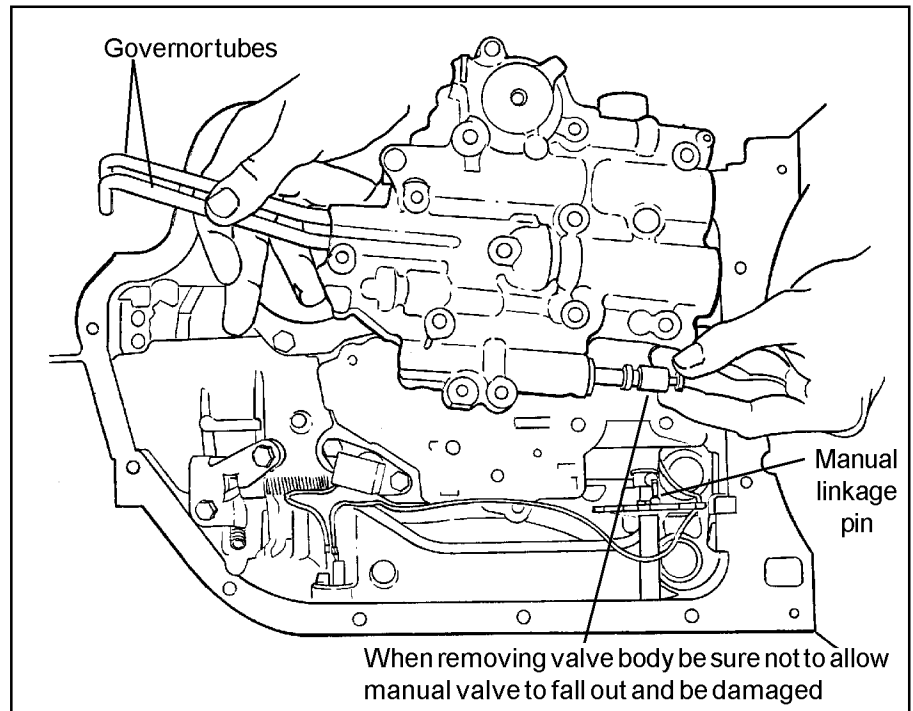
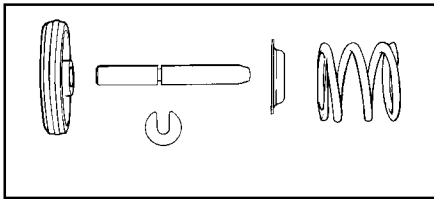

Figure 5
Figure 6
disconnect the spark control switch wire if present. Hold the valve body in place and remove the last bolt. Lower the valve body while at the same time pulling straight down on the governor tubes (See Fig. 5). Place the valve body in the oil pan to avoid contamination. **NOTE:** The front servo may fall out of the case, if it does see **Figure 6** for reassembly order. Use grease or petroleum jelly to hold the servo components
STEP 13. Insert the governor tubes into the valve body (**See Fig. 5**). Lay the lower valve body gasket (has "VB" punched in it) into position on valve body (use grease or petroleum jelly to hold it in place). Make sure the manual valve is in its bore. Install valve body onto transmission guiding the governor tubes into their holes at the rear of case. Push up on valve body and tubes and engage the manual valve on the shift linkage. Install one bolt to hold valve body in place.